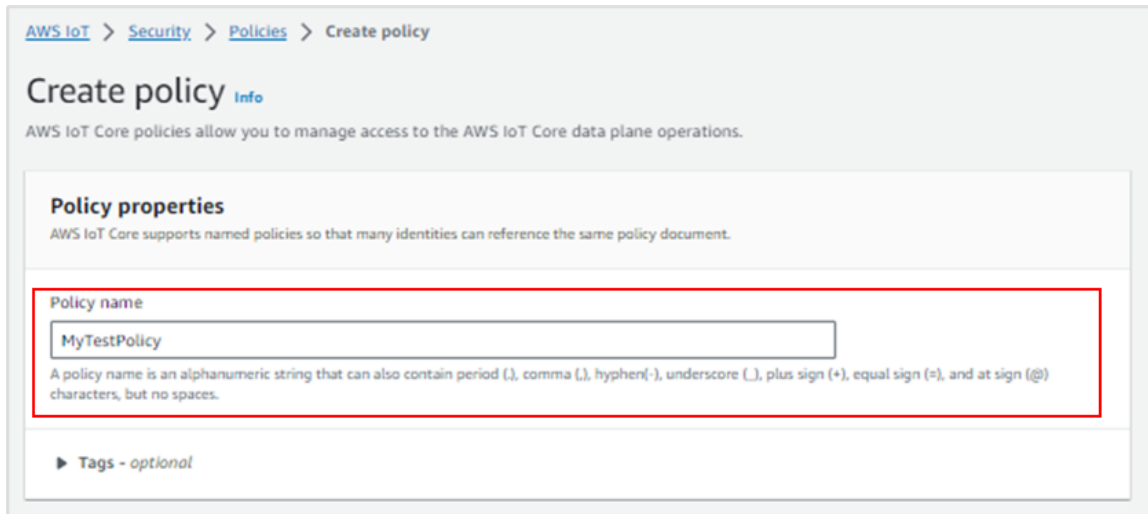

Figure 26. Add policy name
- a. In the **Policy name** field, under **Policy properties**, enter a name for the policy (for example, MyTestPolicy). Renesas Electronics recommends not using personally identifiable information in policy names, see Figure 26.